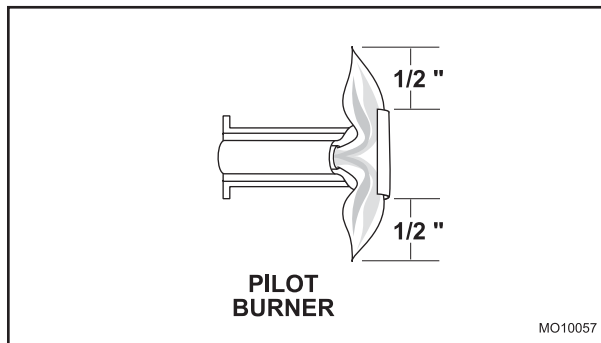

Figure 7. Pilot Burner
3. Ensure that each pilot burner has a steady blue flame, Figure 7, per Table C on PAGE 5. The pilot flame should envelope the tip of the thermocouple. The pilot flame can be viewed up through the opening of the broiler compartment.